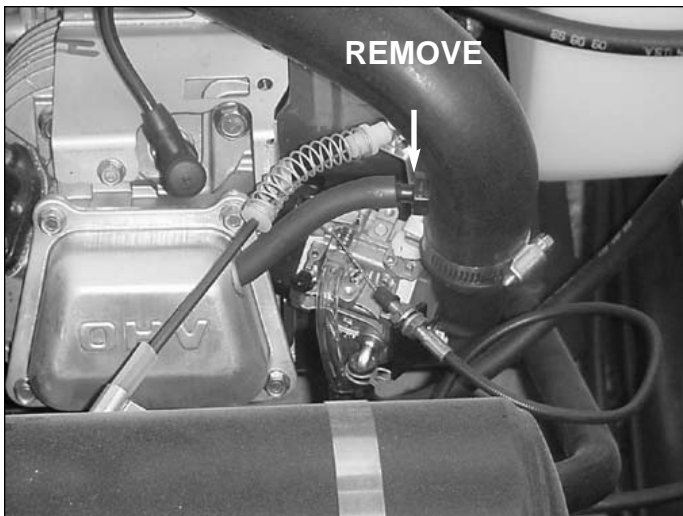

Figure 77 - Breather Hose Removal
1. Remove two bolts holding air cleaner assembly to rear fork support. Remove breather hose from air intake hose fitting. See Figure 77.
3. Disconnect choke cable from swivel at carburetor choke lever. See Figure 77.
5. Remove throttle cable from carburetor and throttle cable bracket. See Figure 77.